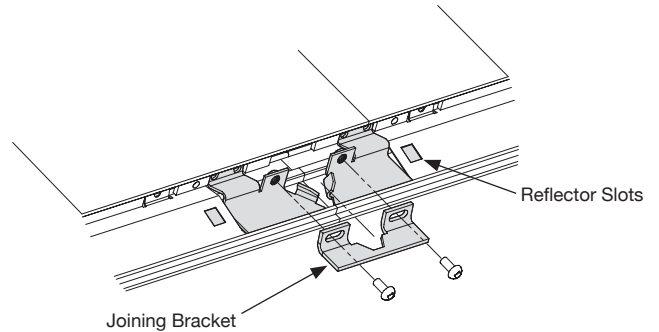

Fig. 2
- From the bottom of the fixture, slide the joining bracket onto the two flanges of the bottom brackets and secure using two #6-32 screws (Fig 2). Repeat this process on the opposite side of the fixture joint.